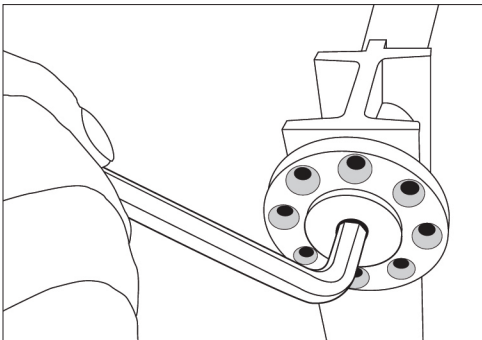

FIGURE 11
2. Tighten both adjustment plates by 1 or 2 holes (Fig. 11).